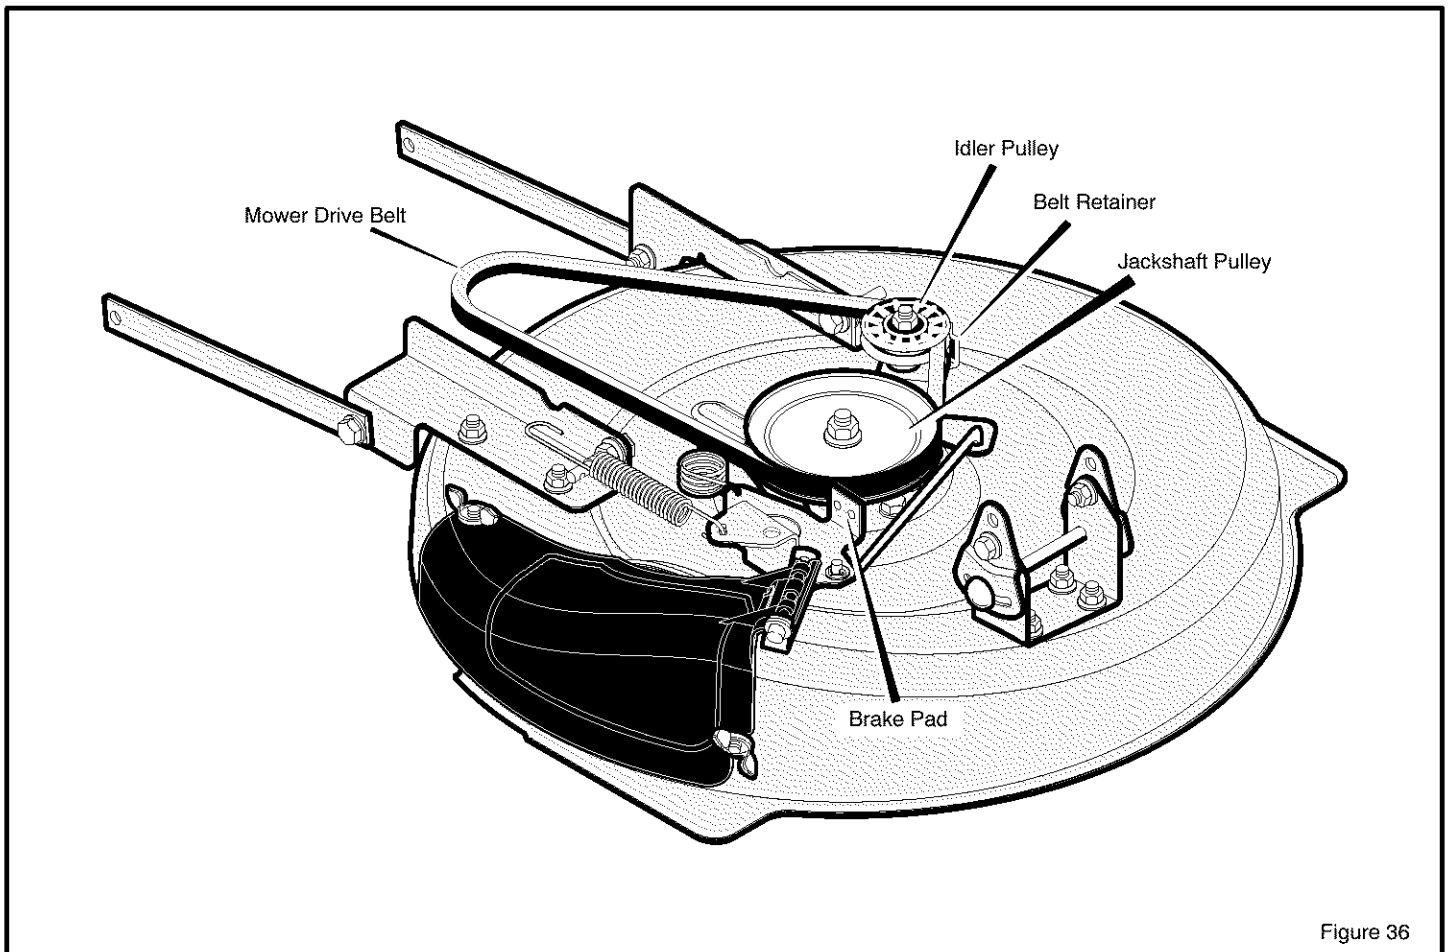

Figure 36
2. Pull the **belt retainer** away from the **idler pulley** and remove the **mower drive belt** (Figure 36).